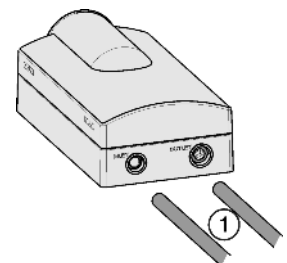

Fig. 32
- ▶ On the thin hose, measure the insertion depth (E) of 21/32 " (17 mm) and mark it.
- ▶ On the thick hose, measure the insertion depth (E) of 25/32 " (20 mm) and mark it.
- ▶ Insert the hoses *Fig. 32 (1)* all the way into the water filter module (i.e., up the the mark you made), past the point of resistance.